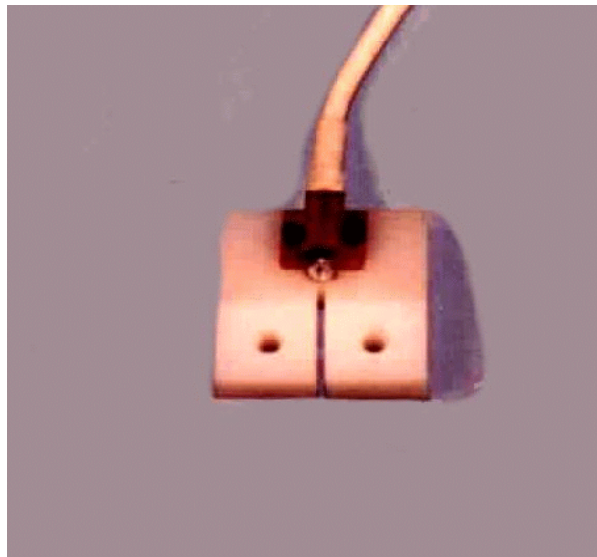

Figure 9.9- Uniaxial accelerometer on accelerometer mount
8. Thread the string transducer cable through the hole in the Internal Foam Middle Layer (T1UAM011). Insert this middle layer of foam into the bag as shown in **Figure 9.9**.
10. The upper abdomen can be instrumented with a uniaxial accelerometer (T1INM110) to measure the acceleration of the bag face during impact. Mount the uniaxial accelerometer to the Accelerometer Mount (T1UAM015) using two #0-80 x 1/4" SHCS {0.050} and two #0 washers as shown in **Figure 9.9**. The electrical cable from the uniaxial accelerometer unit should be oriented toward the narrow end of the accelerometer mount wedge.